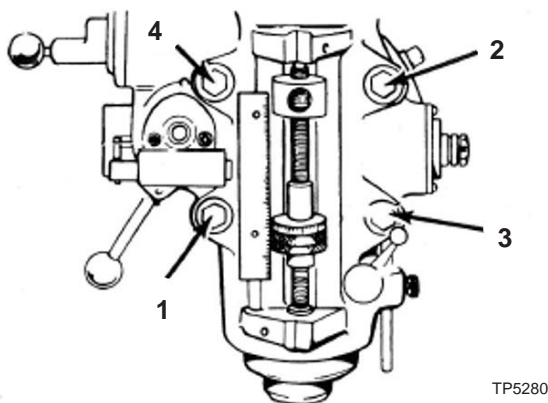

Figure 2.5 - Head Bolt Tightening
7. Retighten all nuts first to 25 ft/lbs. torque in a diagonal sequence and then to 50 ft/lbs, (see Figure 2.5).